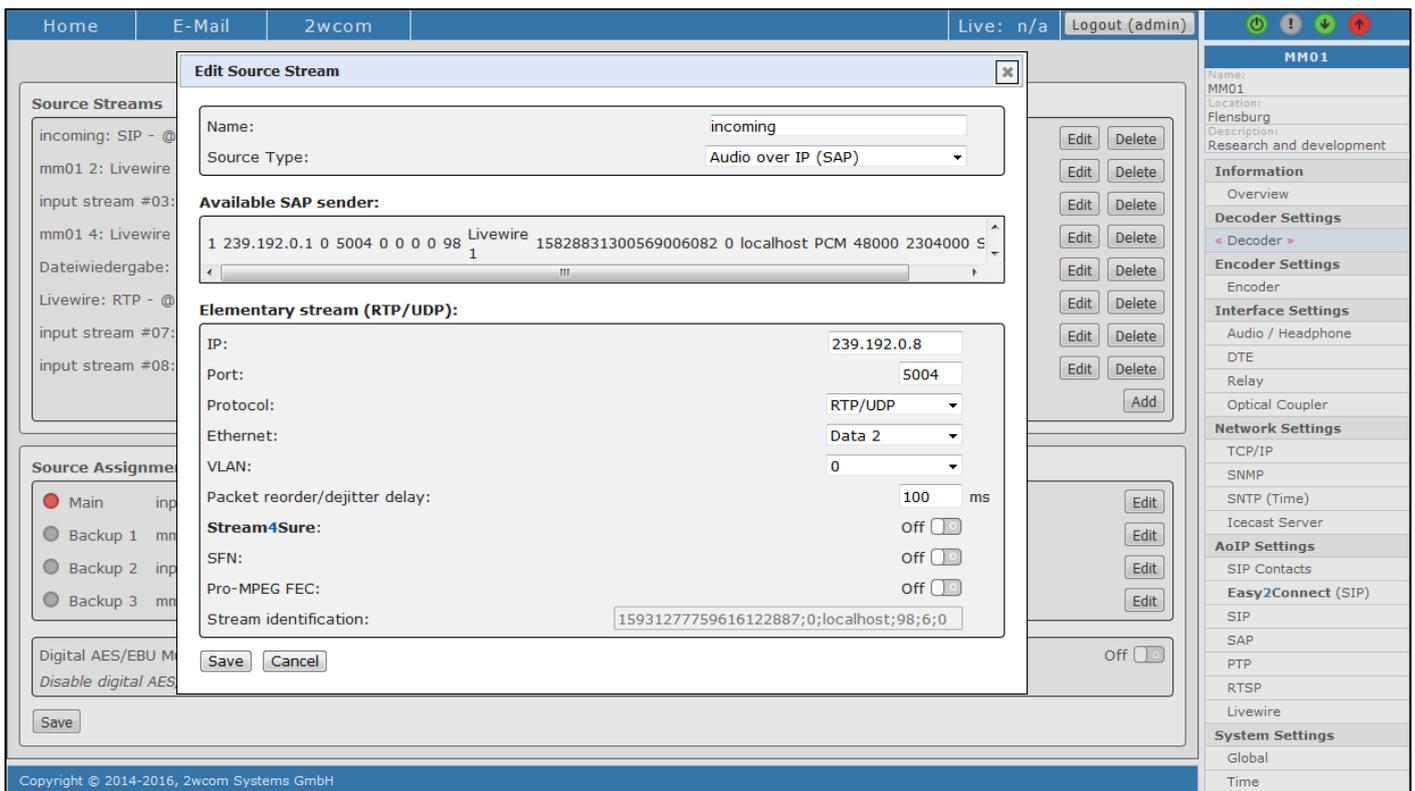

Figure 38: Edit Source Stream for Decoder – Audio over IP (SAP)
1. Choose "SAP" in the field Source Type. The menu will be extended to the block **Elementary stream (RTP/UDP)** (see Figure 38).